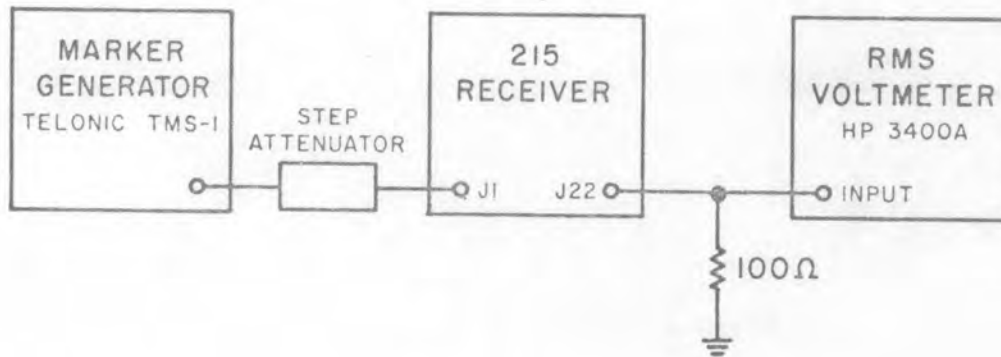

Figure 4-4. Test Setup, Incidental FM Check
- (1) Connect the equipment as shown in Figure 4-4.